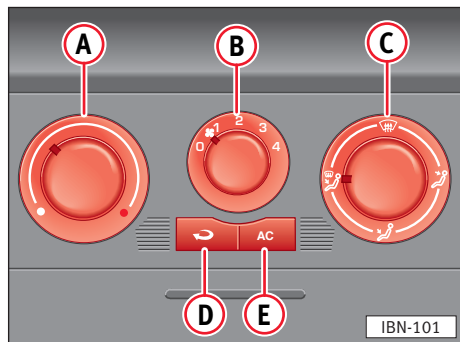

Fig. 86
- Turn rotary regulator **(C)** to the area between the air distribution in the "feet area" and "defrost" ⇒ **fig. 86**.